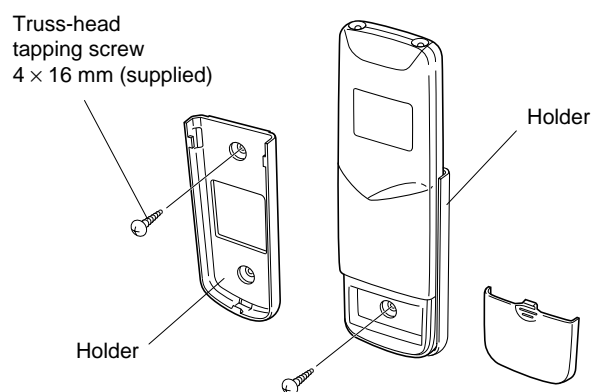

Fig. 33
- 1) Mount the holder to the wall with one of the screws (using only the hole in the top of the holder) (Fig. 33).